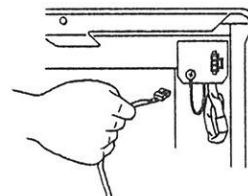

Fig.7
5. Remove the connector cover. Then connect the power connector on the recorder to the connector on the unit side. (Fig. 7)